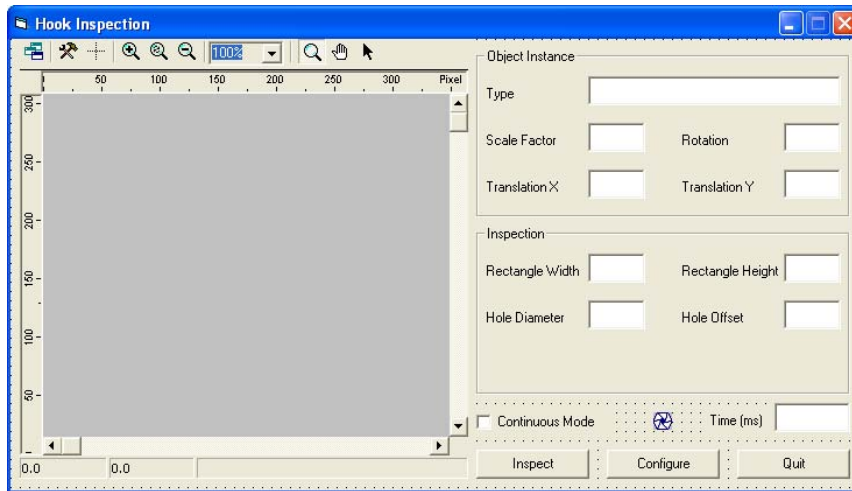

Figure 69 Visual C++ Dialog for Tutorial 4
1. On your application dialog, add two edit boxes. Name the first one **IDC_EDIT_DIAMETER** and the second **IDC_EDIT_OFFSET**. Add proper labels for your edit boxes. Set everything to appear as illustrated Figure 69.